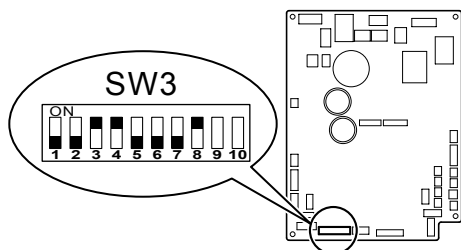

Fig. 6-2
6.2. Embedded indoor unit setting (must be performed) (Fig. 6-2)